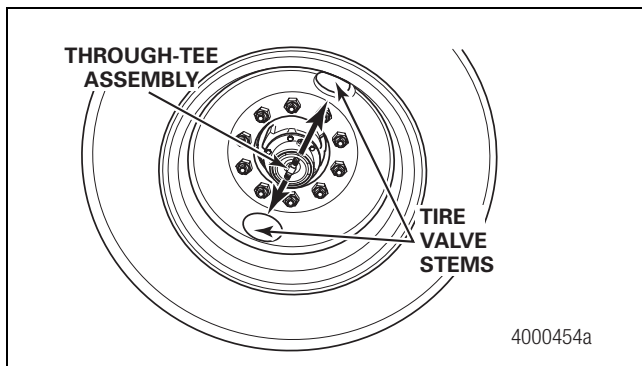

Figure 2.48
5. The air fittings must point TOWARD the tire valve stems. Check that the tire valve stems are 180 degrees opposite each other. The valve stems must be in this position to install the tire inflation system. Figure 2.48. If necessary, bolt-on hubcaps or wheels may be “clocked” to align the through-tee with the tire valve stems. Screw-on hubcaps may be rotated for this alignment, as long as the hubcap tightening specification is within the hubcap manufacturer’s recommended guidelines.